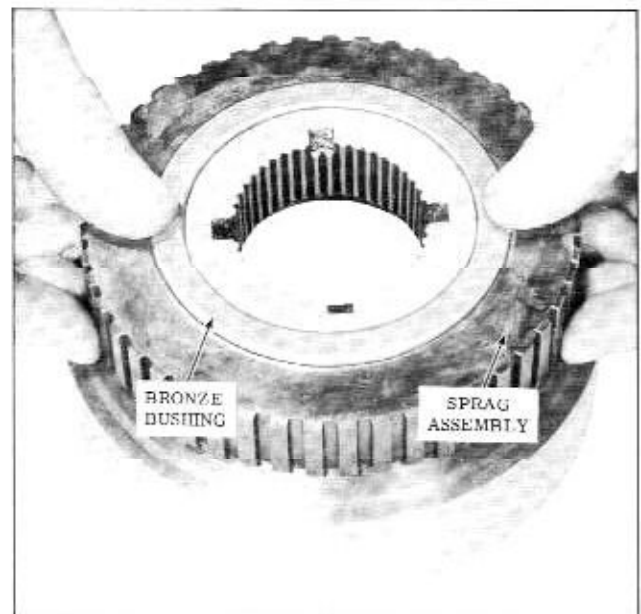

Fig. 3-90 Installing Bushing
5. Install second bronze bushing, cup side down, against sprag assembly. (Fig. 3-90)